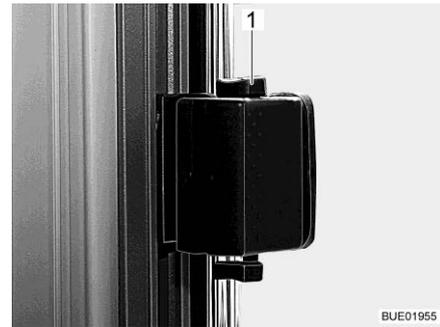

Fig. 100 Sliding window, unlocked
- Push the latch (Fig. 100,1) upwards.